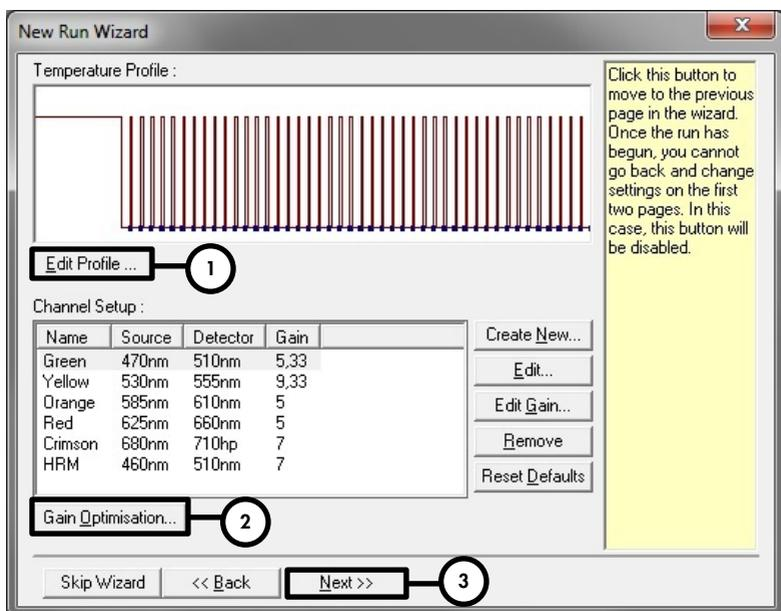
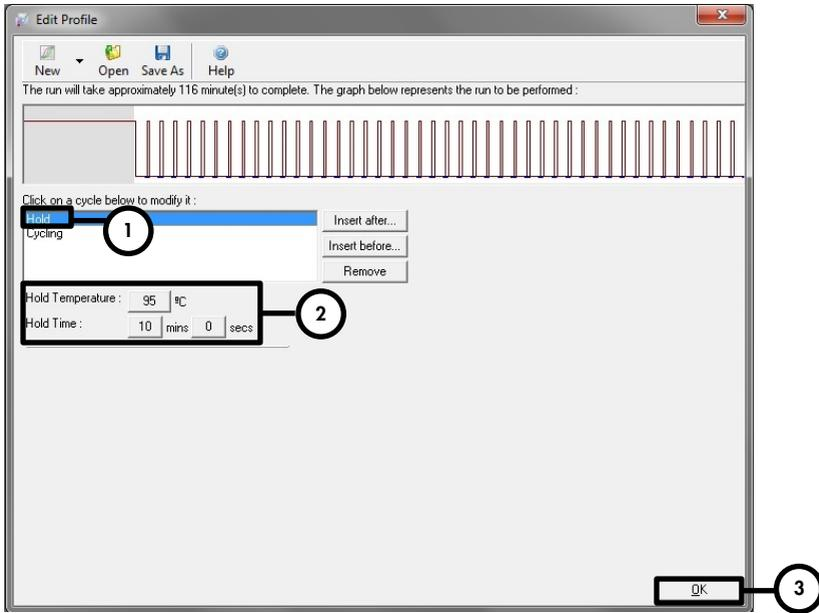

Figure 4. Editing the profile.
Figure 5. Initial activation of the hot-start enzyme.
Initial activation of the hot-start enzyme	Figure 5
9. Click the **Edit Profile** button in the next **New Run Wizard** dialog box (Figure 4), and program the temperature profile as shown in Figures 5–6.
10. The detection range of the fluorescence channels has to be determined according to the fluorescence intensities in the PCR tubes. Click **Gain Optimisation** in the **New Run Wizard** dialog box (see Figure 4, Step 2) to open the **Auto-Gain Optimisation Setup** dialog box (Figure 7). Check the **Perform Optimisation Before 1st Acquisition Box** (Figure 7). Make sure that both channels (Green and Yellow) are selected for **Auto-Gain Optimisation** (Figure 7). (Find channels in the drop down menu under **Channel Settings** and click **Add**.) Click **Close** of the **Auto-Gain Optimisation Setup** dialog box when the gain calibration is completed.